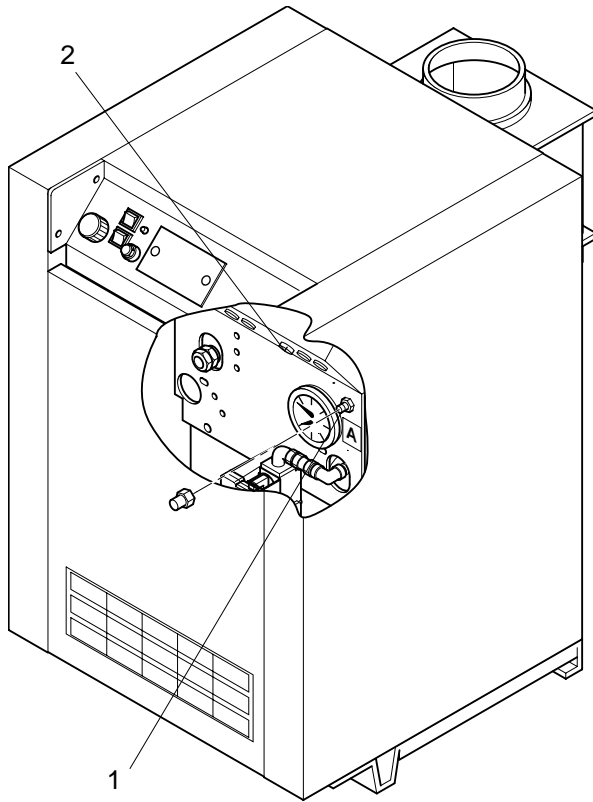

Fig. 7
In order to release the waste gas monitor - after cool down of temperature sensor - the release pin (see Fig. 7, pos. 1) must be pressed. Subsequently the boiler will be restarted as described in Chapter 10.